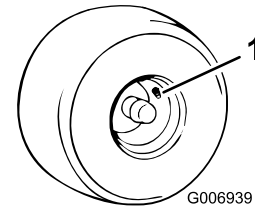

**Figure 40**
4. Insert and rotate the bulb counterclockwise until it stops (approx. 1/4 turn), and remove the bulb from the bulb holder (Figure 40).
2. Insert the base into the holder (Figure 40).